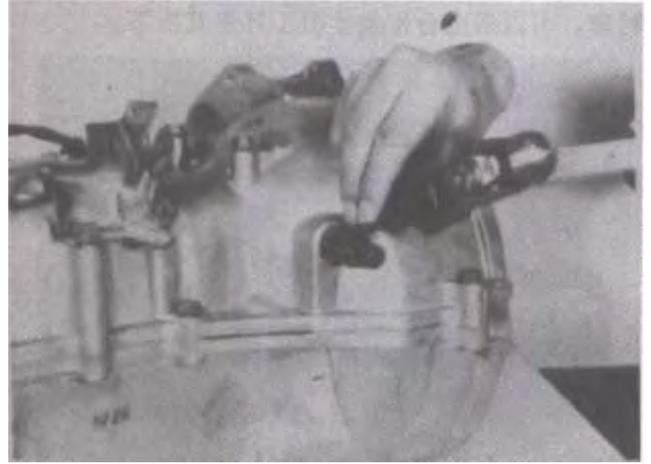

Fig 10-12
- (3) After installing bush, caulk transmission case against bush at 2 points. (FIG.10-12)